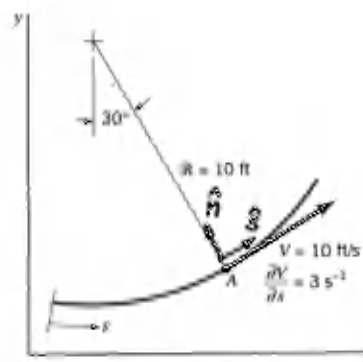

FIGURE P4.6R
4.6R (Acceleration) A fluid flows steadily along the streamline as shown in Fig. P4.6R. Determine the acceleration at point A. At point A what is the angle between the acceleration and the  $x$  axis? At point A what is the angle between the acceleration and the streamline?